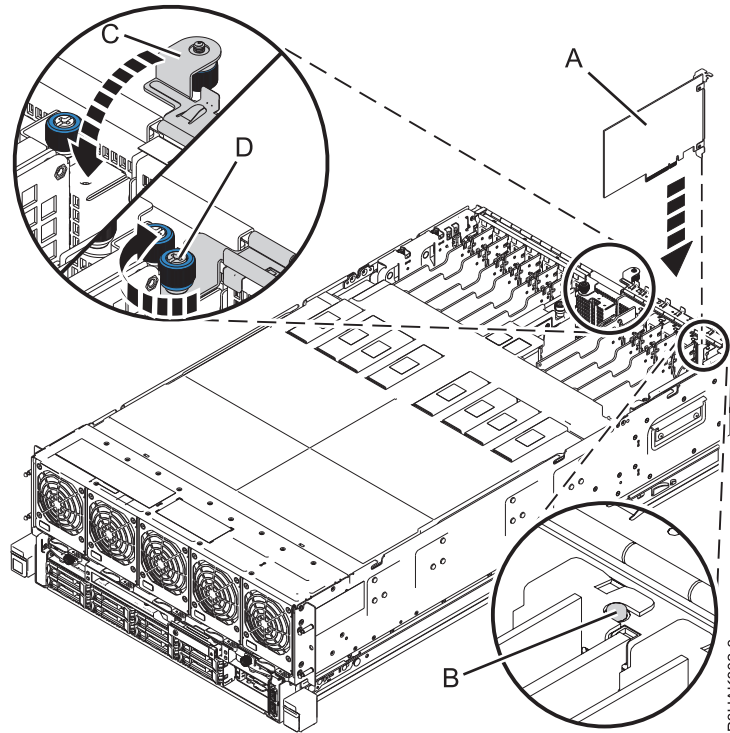

Figure 18. Installing or replacing a PCIe adapter in the 8408-44E or 8408-E8E system
7. Carefully grasp the adapter by its top edge or tailstock, and align the adapter with the slot and its connector on the system backplane (A), as shown in Figure 18 on page 27.
9. Ensure that the tailstock notch engages with the pin on the system's chassis. See (B) in Figure 18 on page 27.
10. Close the I/O retention bracket (C) by rotating it down and then tighten the captive thumbscrew (D) until it is secured to the system's chassis. See Figure 18 on page 27.